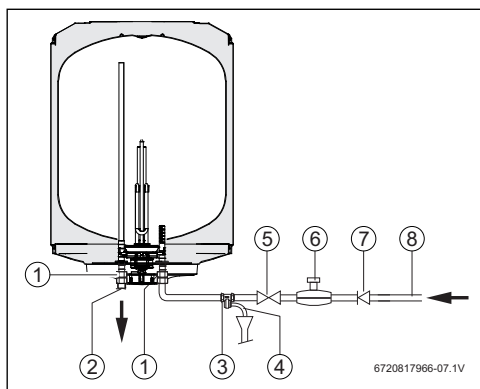

Fig. 10 Water connection
We recommend the installation of a non-return valve upstream of the cylinder to prevent faults resulting from sudden pressure fluctuations in the water supply (Fig. 10, [7]).
- Fit a pressure relief to the cold water connection on the DHW cylinder (fig. 10).
- Install a pressure relief valve (fig. 10).